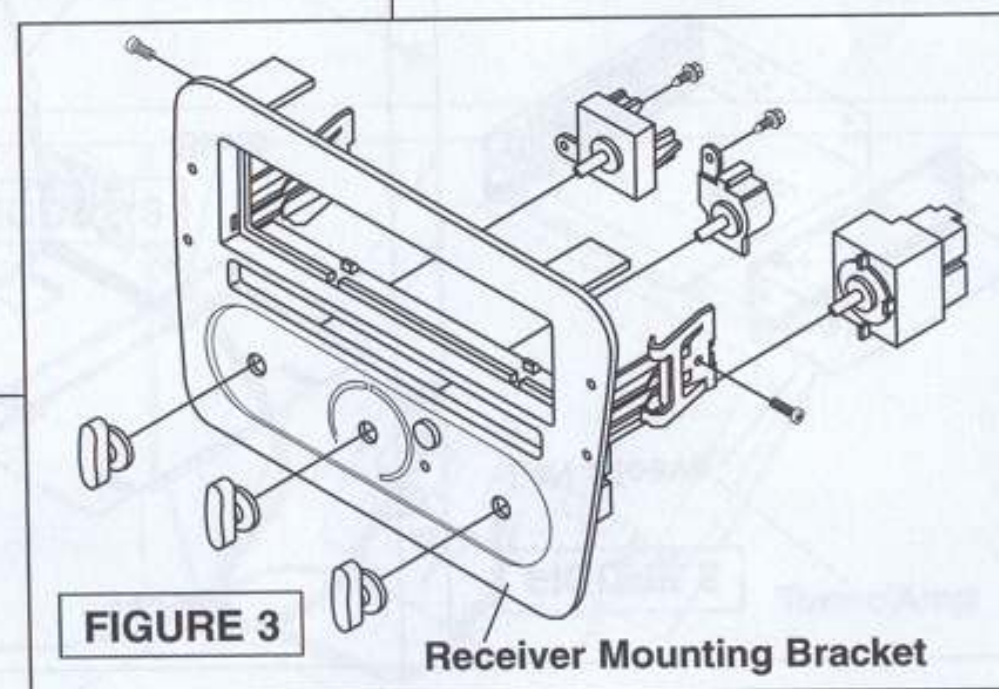

FIGURE 3
6. Secure switches and spring clips to **receiver mounting bracket** in corresponding locations using hardware removed from factory assembly (Figure 3). Attach control knobs.